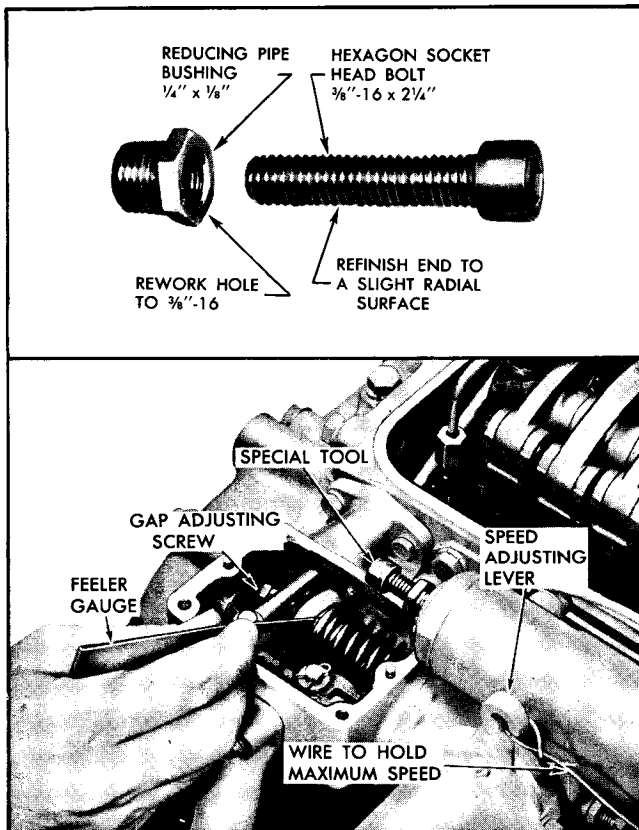

Fig. 2 - Adjusting Governor Gap Using Special Tool
3. Install special tool, shown in Fig. 2, into knockdown assembly and force piston to the end of its travel.
5. Insert a .006" feeler gauge between the spring plunger and the plunger guide as shown in Fig. 2. If required, loosen lock nut and turn gap adjusting screw in or out until a slight drag is noted on the feeler gauge.